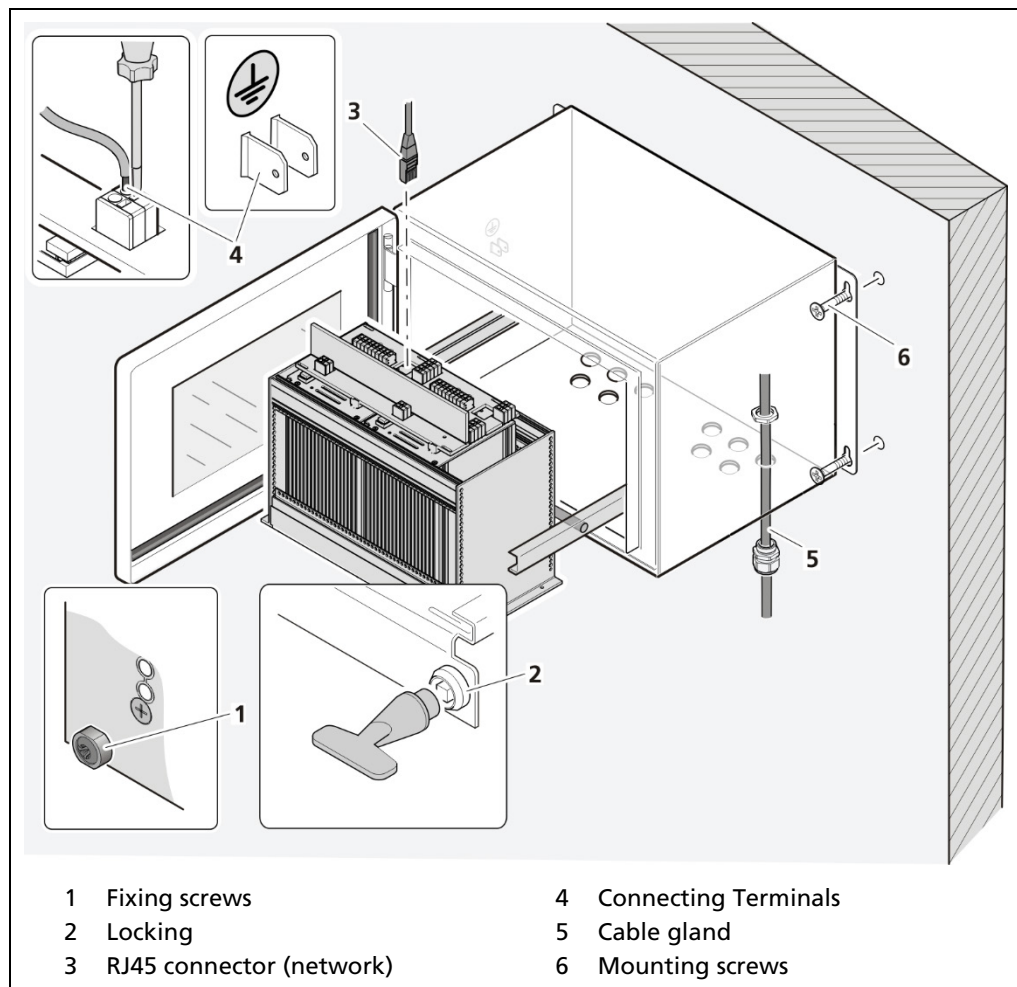

Fig. 149 Decommissioning wall housing
1. Make sure that the locking bolts (Fig. 149, item 1) of all modules are tightened in order to prevent slipping.
2. Loosen the lock (Fig. 149, item 2) using the supplied square key and pull the subrack out.
5. Remove the network plug (Fig. 149, item 3).
7. Loosen the cable gland (Fig. 149, item 5) on the bottom side of the wall housing and pull all cables from the wall housing.
9. Loosen the mounting screws (Fig. 149, item 6) and remove the wall housing.